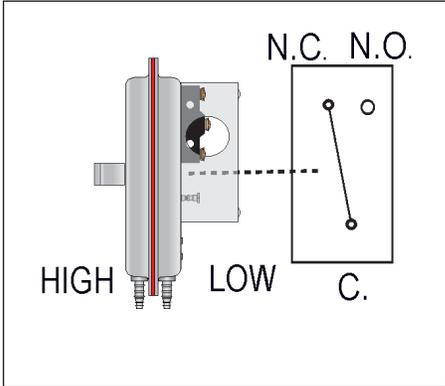

Figure 3: Before pressure is applied to the diaphragm, the switch contacts are in the normally closed (NC) position.
Before pressure is applied to the diaphragm, the switch contacts will be in the normally closed (NC) position. Wire control and alarm functions as shown in Figure 3.